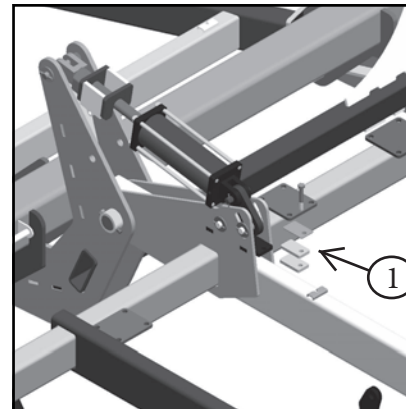

figure 8
- a) If the front of the machine is higher than the rear, remove shims shown in figure 8
- b) If the front of the machine is lower than the rear, add shims shown in figure 8